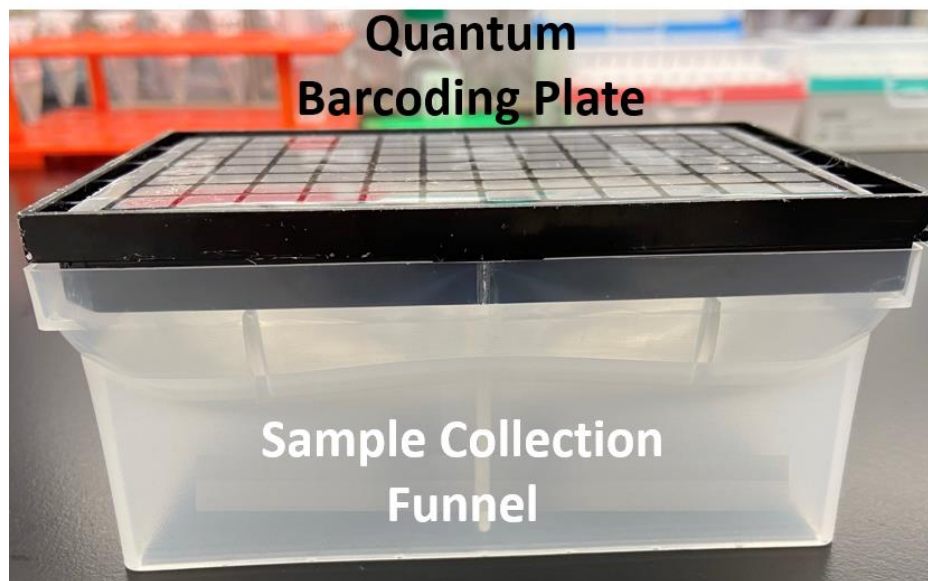

Figure 9. Placing the Sample Collection Funnel on top of the Quantum Barcoding Plate and inverting for bead collection.
26. Place the Sample Collection Funnel upside down on top of the Quantum Barcoding Plate and quickly invert the assembly, as shown in Figure 9 below.